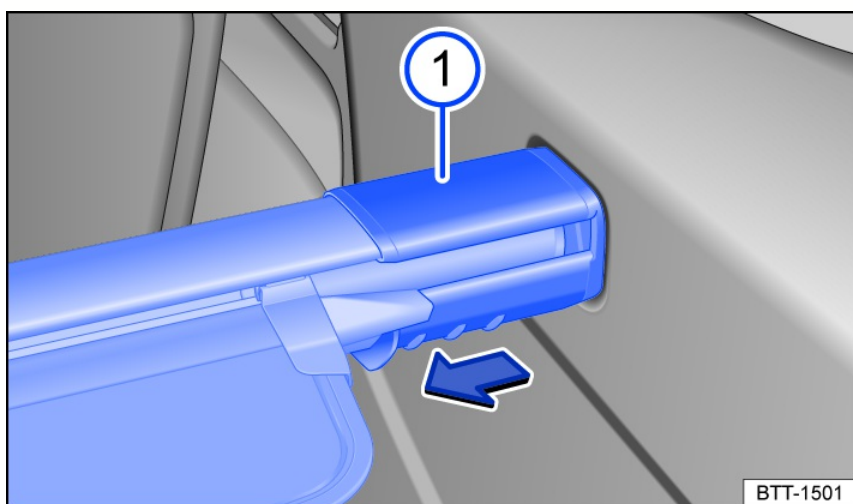

Fig. 156 In the luggage compartment: removing the luggage compartment cover.
- Press the retainer on the luggage compartment cover fig. 156 ① in the direction of the arrow and hold it in place.
- Remove the luggage compartment cover upward and release the retainer fig. 156 ①.
- Guide the retainer fig. 156 ① into the mount on the side trim panel.